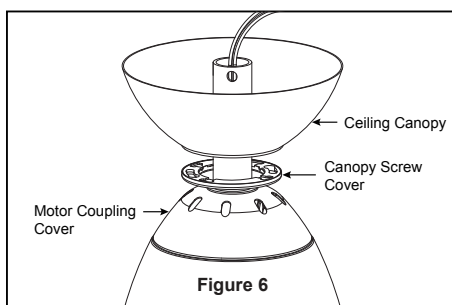

Figure 6
- ☐ 6. Route wires through motor coupling cover, canopy screw cover and ceiling canopy. (Figure 6)